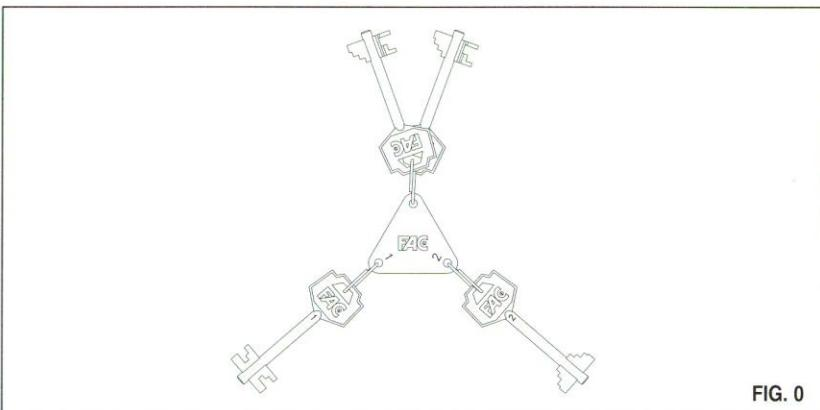
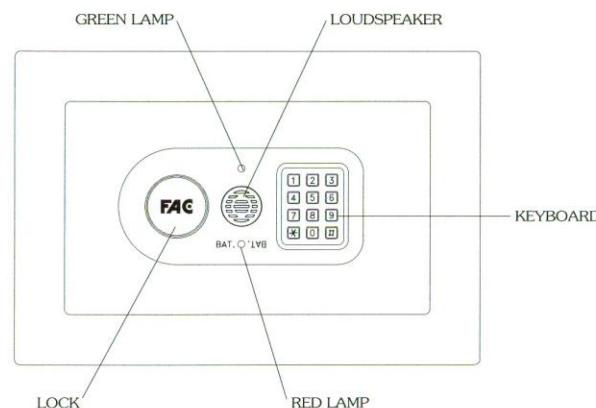

FIG. 0
FIG. 1
This is an electronic coded ad gorge keyed safe (see fig. 1). The safe is supplied with a triple key-rack (see fig. 0) containing the following keys:
The steps to be followed in order to open the safe (see fig. 1) are:
1. Insert the emergency key «1» into the lock (see fig. 1) and turn it half a turn to the right. Remove the key.